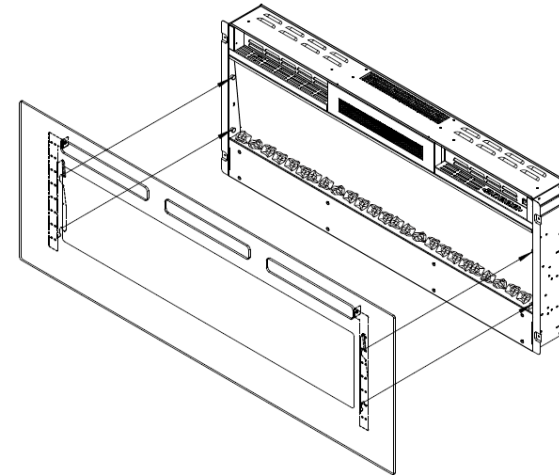

Fig.10
- Place the front glass surround over the front of the fire aligning the slots in the bracket at each side of the glass panel with the lugs on the sides of the fire; See Fig.10